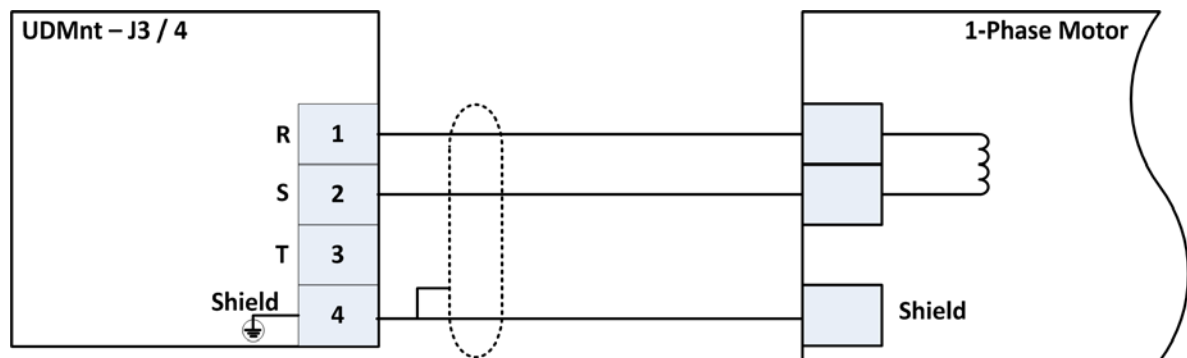
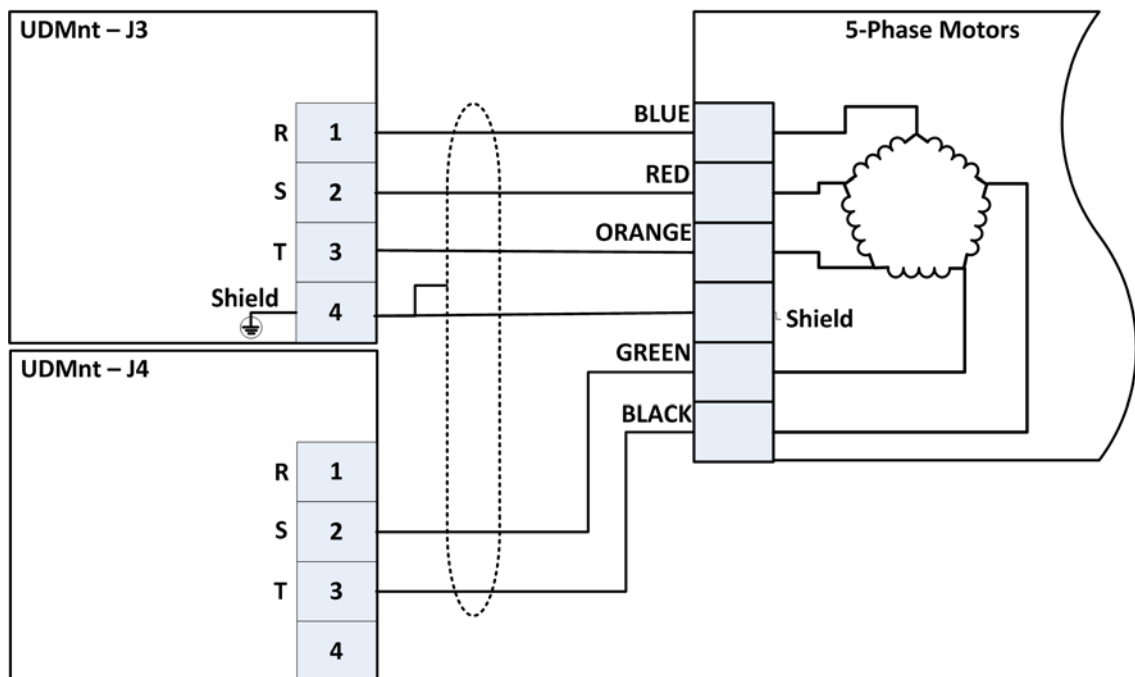

Figure 18. 1-Phase Motors (DC Brush, Voice Coil) Connections
Figure 21. 5-Phase Step Motor Connections (example of an Oriental Motor)
- 1-phase (DC brush, moving coil), see Figure 18.
- 5-phase (step motor. Consult company), see Figure 21.
- Connect the motors to J3 J4 according to Figure 18 through Figure 21.